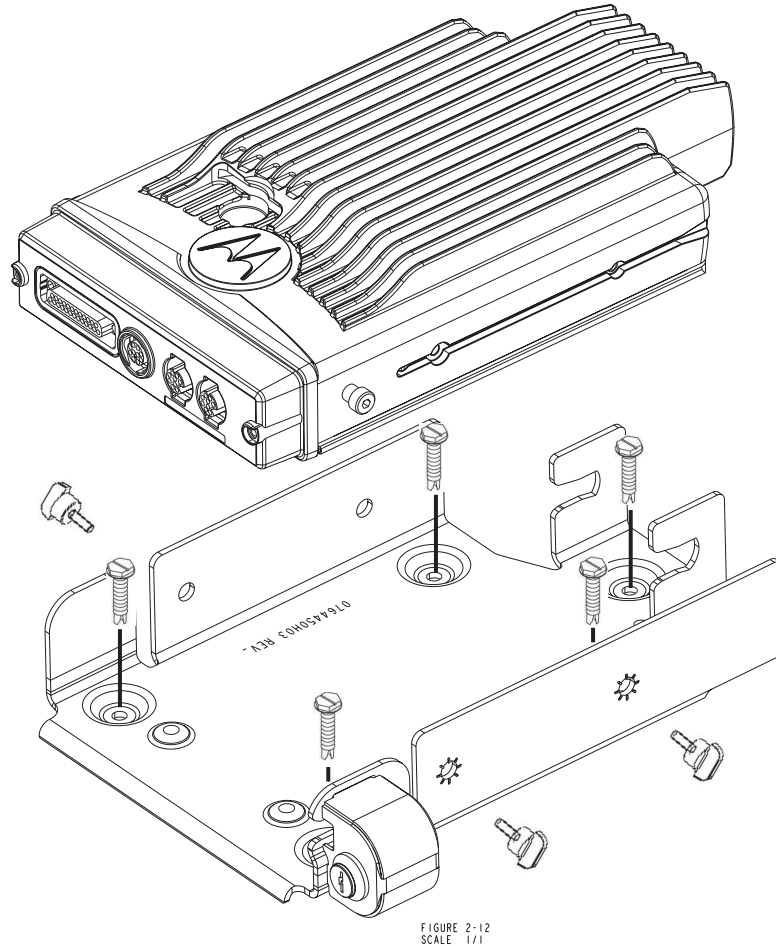

Figure 2-13. 100W Radio Mounting into Screw-Mounted Trunnion
B. *Screw-mounted trunnion (HLN6910\_)*: See Figure 2-13. After mounting the trunnion to the vehicle using the screws provided, insert the rear of the radio into the rear catches of the trunnion and rotate the radio down into place. Secure the radio by firmly installing the four wing screws provided.